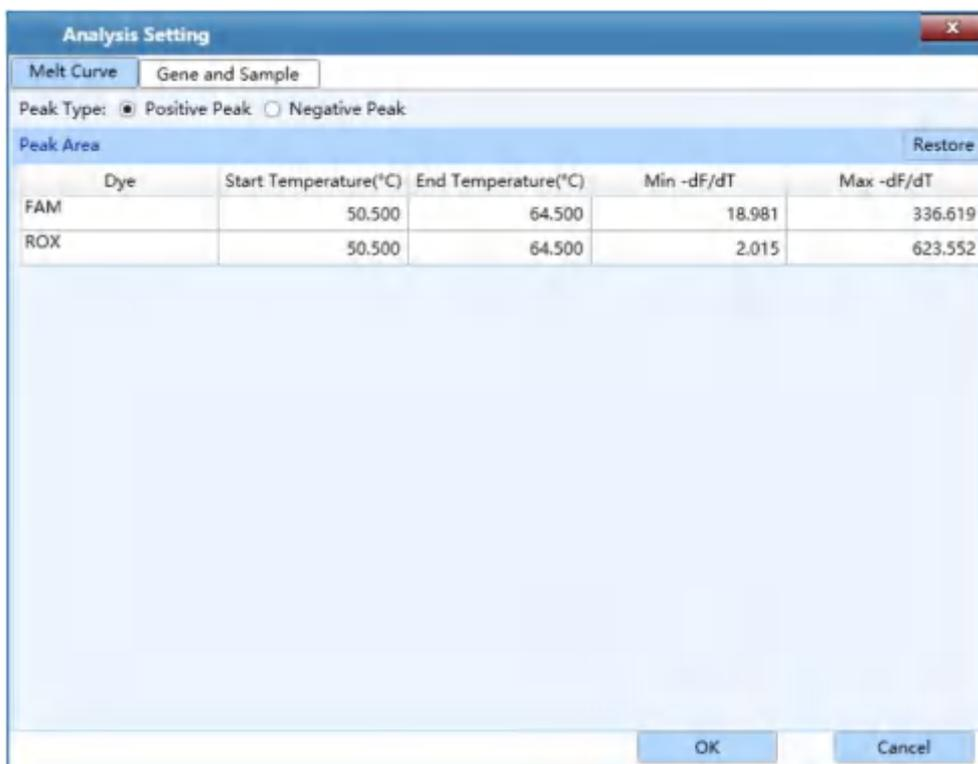

Figure D-12.3. Melting Curve Analysis Setting interface - Melt Curve tab
- Melt Curve** tab: display the parameter range of each peak area on the melting curve, as shown in figure D-12.3.